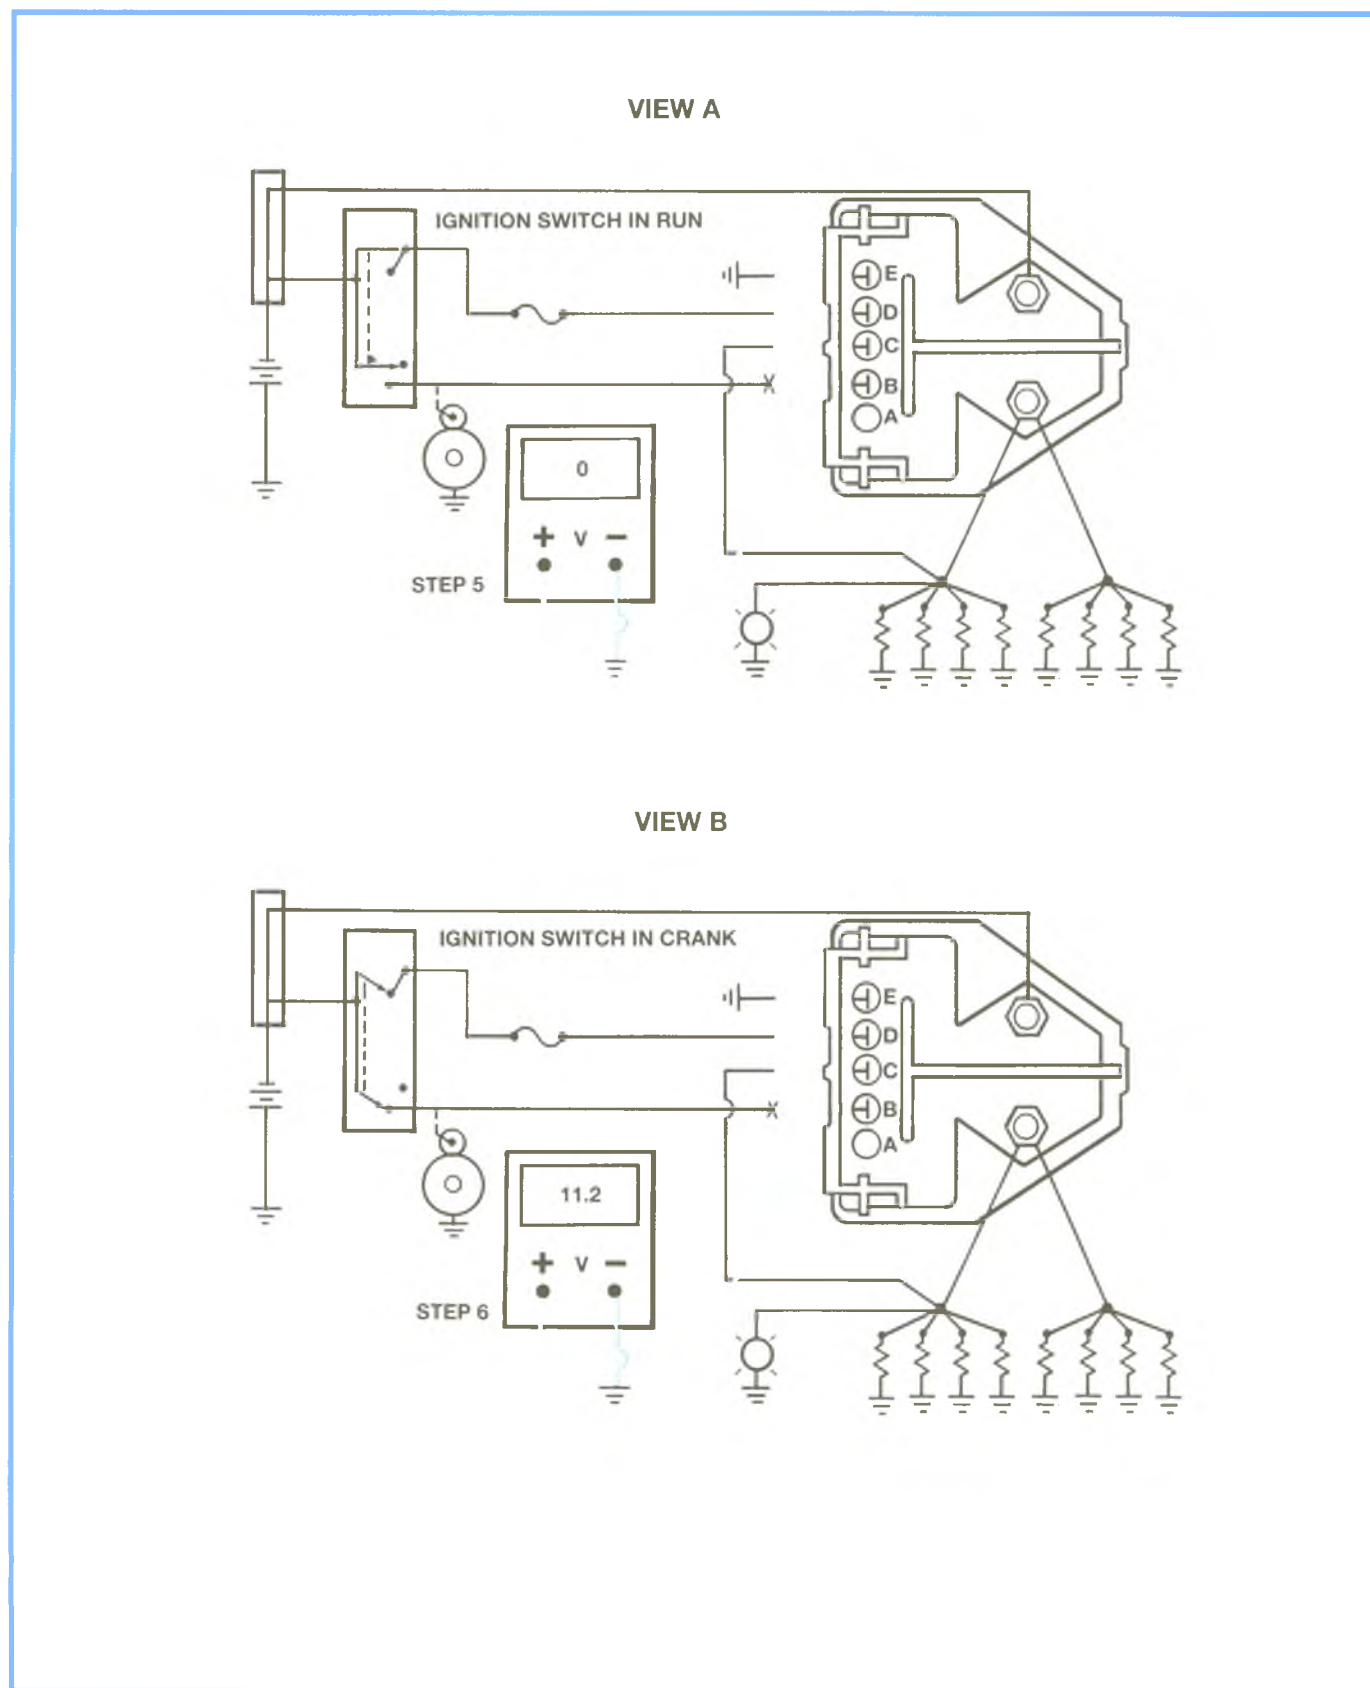

Figure 8-24, Glow Plug Diagnosis – Afterstart Check
5. If the glow plug system does not cycle after cranking, remove the controller circuit electrical connector, move the ignition switch to RUN and measure the voltage at terminal B (harness side) (refer to Figure 8-24, view A):
6. With the controller circuit electrical connector removed, move the ignition switch to crank for 1 second while measuring the voltage at terminal B (harness side) (refer to Figure 8-24, view B):